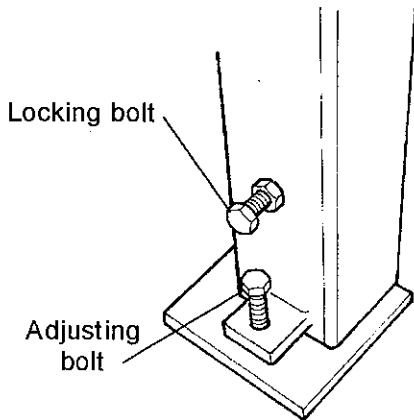

FIGURE 6-22. TABLE LEG ADJUSTMENT.
1. See Figure 6-22. Each Accumulator leg is adjustable to help align the table with the Merry-Go-Round (MGR) table. Loosen the locking bolt and turn the adjusting bolt to raise or lower the leg. Sight down the table edge to determine if the table is aligned with the MGR table. Retighten the locking bolt to maintain the adjustment.